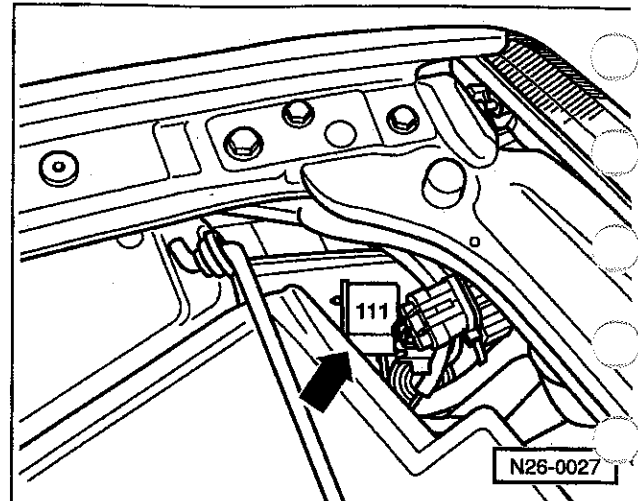

Fig. 16. In-line fuse and relay for secondary air injection (AIR) pump (row). Fuse and relay are located behind left headlight assembly.
- If the air pump does not run, check the in-line 30 amp fuse and the secondary air injection (AIR) pump relay (J299). See Fig. 16.